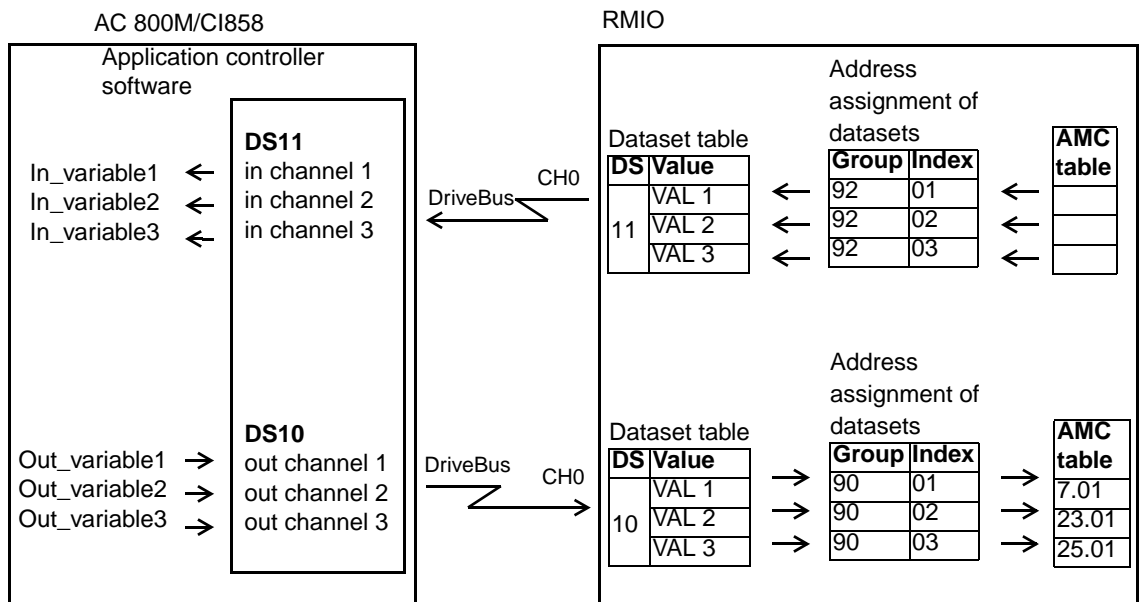

Figure 44. Dataset communication.
The data exchange between AC 800M, ABB Drives and I/O units, via CI858, consists of dataset pairs, which include input and output datasets, see Figure 44. One dataset (DS) consists of three 16-bit words, called data words (DW).